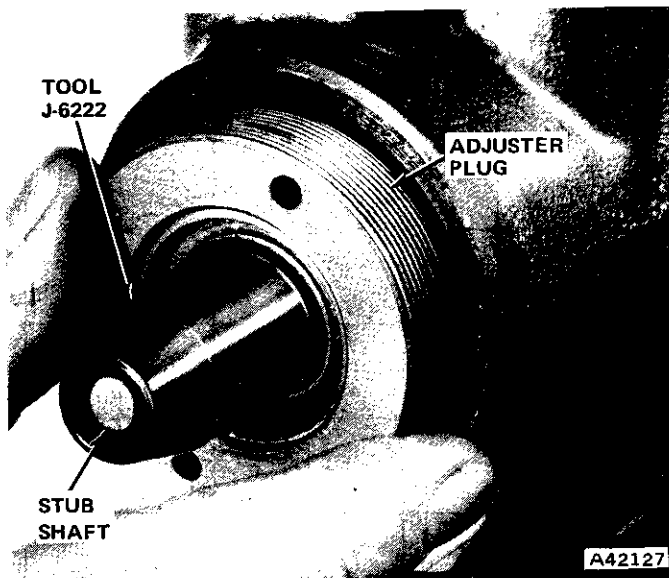

Fig. 2L-40 Adjuster Plug Installation
(7) Place Seal Protector Tool J-6222 over end of stub shaft and install adjuster plug in housing (fig. 2L-40). Tighten adjuster plug to 20 foot-pounds (27 N•m) torque.
(8) Remove seal protector tool from stub shaft.
(9) Install rack piston in housing. Be sure worm shaft remains engaged with stub shaft. Do not damage rack piston seal ring during installation.
(10) Align wormshaft with rack piston and turn stub shaft clockwise to engage wormshaft in rack piston. Maintain steady pressure on arbor tool until wormshaft is fully engaged in rack piston.
(11) Remove arbor tool when rack piston seal ring is inside housing.
(12) Rotate stub shaft until center tooth groove in rack piston is aligned with center of pitman shaft bore.
(13) Install side cover gasket on side cover. Be sure gasket rubber seal is seated in cover groove.
(14) Install side cover on pitman shaft.
(15) Thread side cover onto pitman shaft adjuster screw until cover bottoms against shaft.
(16) Install pitman shaft in housing and mesh center sector tooth of shaft with center tooth groove in rack piston.
(17) Align side cover on housing and install cover attaching bolts. Tighten bolts to 45 foot-pounds (61 N•m) torque. Be sure cover gasket is properly seated before installing cover bolts.